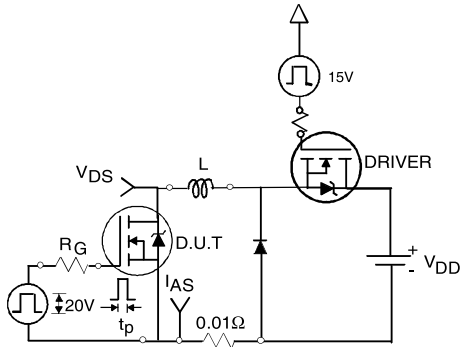

Fig 12a. Unclamped Inductive Test Circuit
| I _{AR} | Avalanche Current | See Fig.12a, 12b, 15, 16 | A |
- ③ $I_{SD} \leq 125A$, $di/dt \leq 260A/\mu s$, $V_{DD} \leq V_{(BR)DSS}$, $T_J \leq 175^\circ\text{C}$
- ④ Pulse width $\leq 400\mu s$; duty cycle $\leq 2\%$.
- ⑤ $C_{oss\ eff.}$ is a fixed capacitance that gives the same charging time as C_{oss} while V_{DS} is rising from 0 to 80% V_{DSS} .
- ⑥ Calculated continuous current based on maximum allowable junction temperature. Package limitation current is 90A.
- ⑦ Limited by T_{Jmax} , see Fig.12a, 12b, 15, 16 for typical repetitive avalanche performance.
3. Equation below based on circuit and waveforms shown in Figures 12a, 12b.